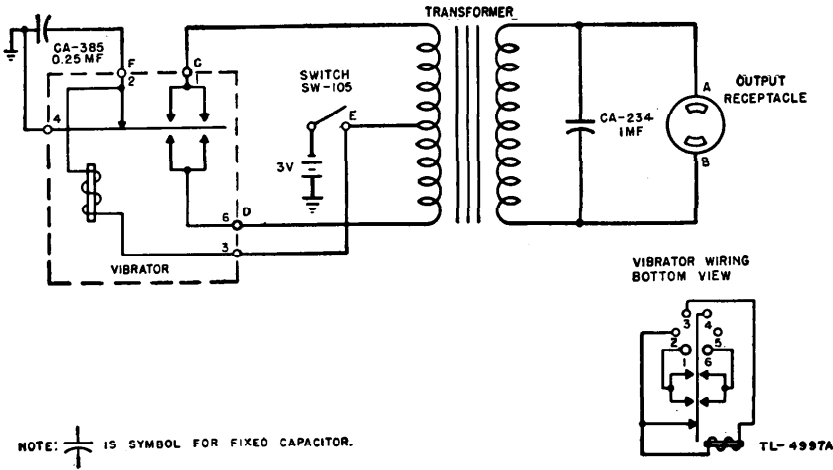

Figure 14. Converter M-222—schematic diagram.
- (1) Schematic diagram. (See fig. 14.)
- (4) Circuit test data. (See par. 25.)
- (5) Trouble-shooting chart. (See par. 26.)
a. POINT-TO-POINT CHECK. A test of the circuit may be made by a point-to-point check using the schematic diagram (fig. 14) for location of points. The meters required for the test are an a-c voltmeter, 0 to 150 volts, rectifier type, 2,000 ohms per volt; an a-c voltmeter, 0 to 10 volts; a d-c voltmeter, 0 to 5 volts; a low-resistance range ohmmeter.
6. Open in wiring of vibrator coil or transformer primary winding.	6. Check resistance of vibrator coil and primary winding. The resistance of the vibrator coil (E to F, fig. 14) is 6 ohms. The resistance of the transformer primary winding (C to D, fig. 14) is 0.3 ohms. Replace the vibrator or transformer if the coil or winding is defective.
- b.* TEST OF OUTPUT CIRCUIT. (1) Operate Switch SW-105 to OFF.
1. Transformer secondary winding or wiring defective.	1. Disconnect Telephone EE-8-() and check the resistance of the transformer secondary winding. The resistance between A and B, fig. 14, should be 85 ohms. Replace the transformer if defective.